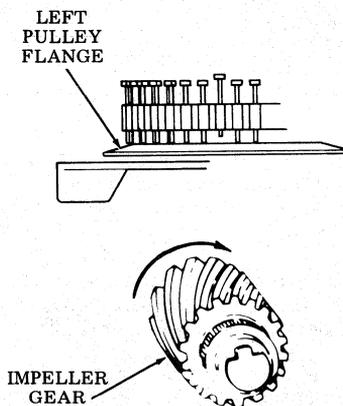

Fig. 44—Type Carrier Alignment
- (e) Rotate type carrier one revolution by turning impeller gear by hand clockwise. At the same time, align any protruding type pallets against the left pulley flange (Fig. 44).